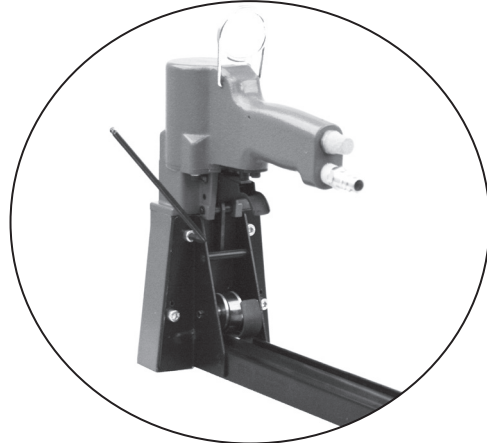

Fig. 9
- Unscrew the four screws at the rear body (Fig 9).